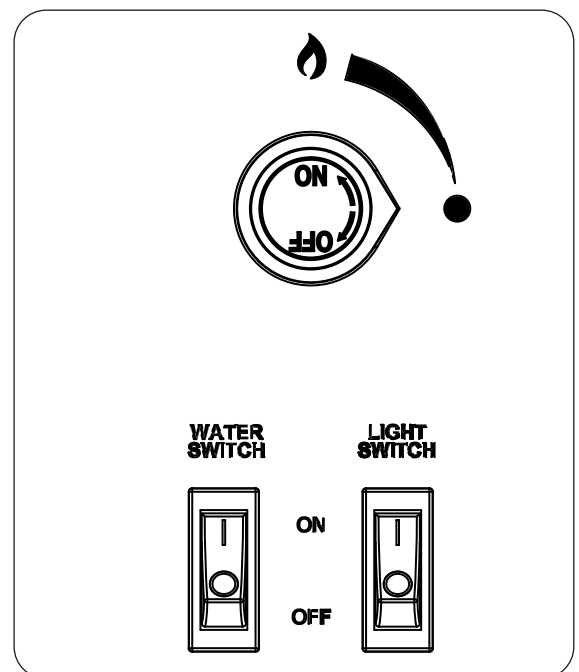

Fig. 39-3 Control box detail
This key (and the entire remote) only works when the light switch located on the unit's control box is in the ON (I) position. See Fig. 39-3.
1. Flip the light switch (door side of unit) to the ON (I) position. See Fig. 39-3.